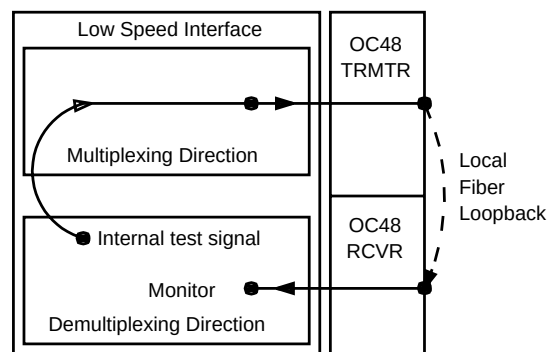

Figure 9-25. Local (Terminal Self-Test)
- **Local (Terminal Self-Test):** The **FAULT-Test-Auto Turnup-Local** input verifies the internal health of the FT-2000 OC-48 Add/Drop-Rings Terminal itself. It tests the transmission path between the low-speed interface circuit packs [DS3, STS1E, OC-3, and OC12 (1.3 STD)] and the OC48 RCVR and OC48 TRMTR circuit packs (Figure 9-25). The FT-2000 OC-48 Add/Drop-Rings Terminal also tests the through and loopback transmission paths between OC48 RCVR and OC48 TRMTR circuit packs.